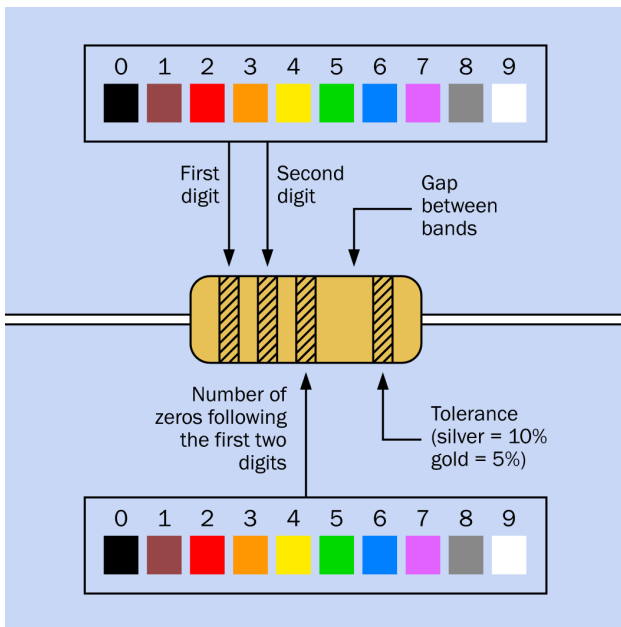

Figure 1-43 The coding scheme that shows the value of a resistor. Some resistors have four stripes on the left instead of three, as explained in the text.
However, most resistors are color-coded with stripes. Figure 1-43 shows the coding scheme.
- The colors of the first two stripes, from left to right, tell you the first two digits in the value of the resistor. The color of the third stripe from the left tells you how many zeros follow the two numbers. The color values are shown in Figure 1-43.